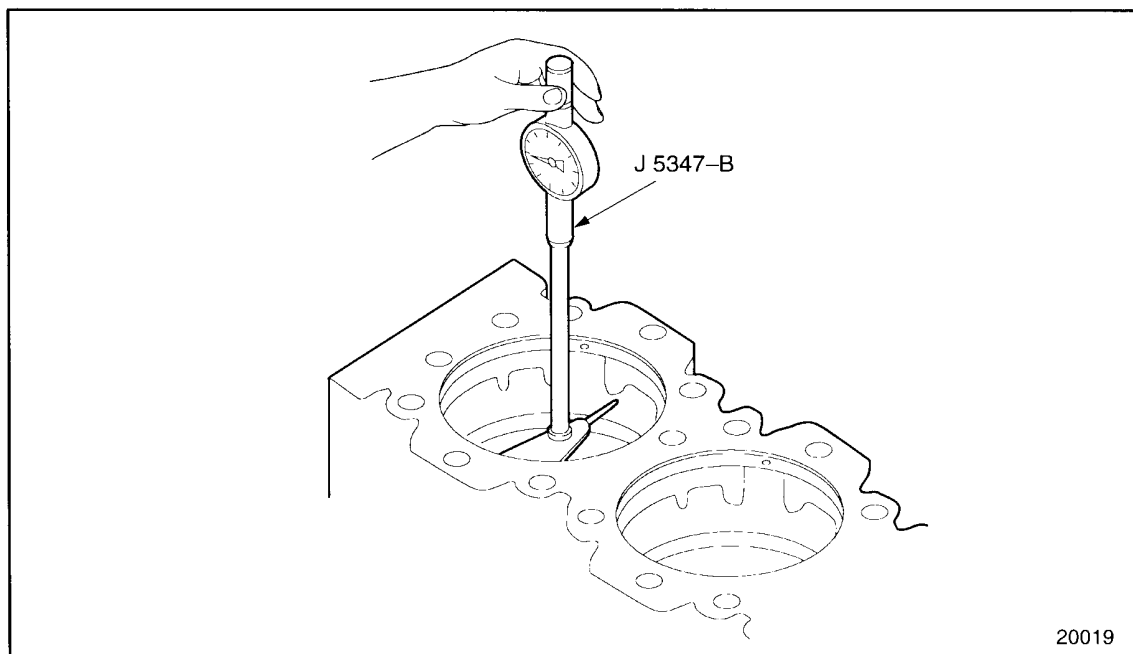

Figure 1-11 Gaging Cylinder Bores
1. Measure the bore of each cylinder with cylinder bore gage, J 5347-B, which has a dial indicator calibrated in 0.0001 in. increments. See Figure 1-11.
2. Measure cylinder block bore, at the positions on axis 90° apart. See Figure 1-11. If the diameter does not exceed the dimensions listed in Table 1-1, the block may be reused.